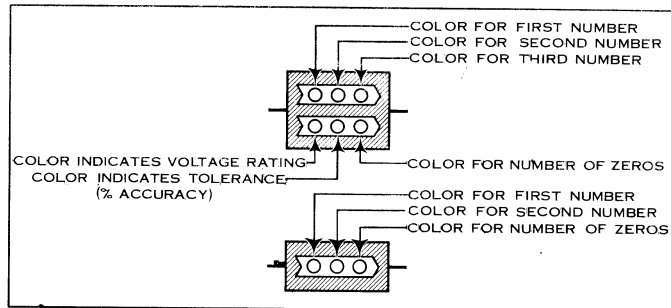

Figure 13 RMA Mica Capacitor Color Code Chart
EXAMPLE: A 56,300 MMF (0.0563 MF.) capacitor of 10% tolerance and a 500 volt rating is indicated by a green dot (5), a blue dot (6), and an orange dot (3), on the top row; a red dot (2 zeros) (00), a silver dot (10% tolerance) and a green dot (or no color) (500 volts) arranged in the order shown in Figure 13. All capacitance values are given in micro-microfarads (MMF). To convert to microfarads (MF.) move the decimal point 6 places to the left. Small capacitors are often marked with 3 dots as shown in Figure 13. For example, a 250 MMF. unit (.000250 MF.) would be marked red (2), green (5), and brown (1 zero) (0).